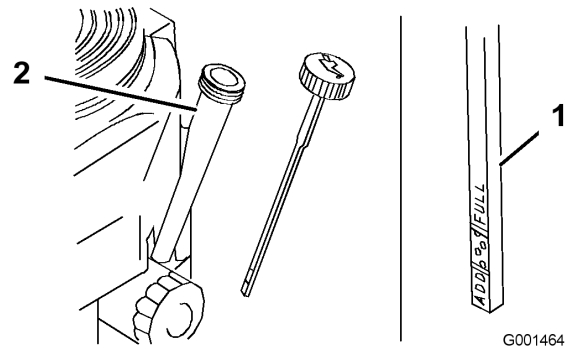

Figure 20
4. Clean around the oil dipstick (Figure 20) so that dirt cannot fall into the filler hole and damage the engine.
5. Unscrew the oil dipstick and wipe the end clean (Figure 20).
6. Slide the oil dipstick fully into the filler tube, but do not thread onto tube (Figure 20).
9. Slowly pour approximately 80% of the specified oil into the filler tube (Figure 20).